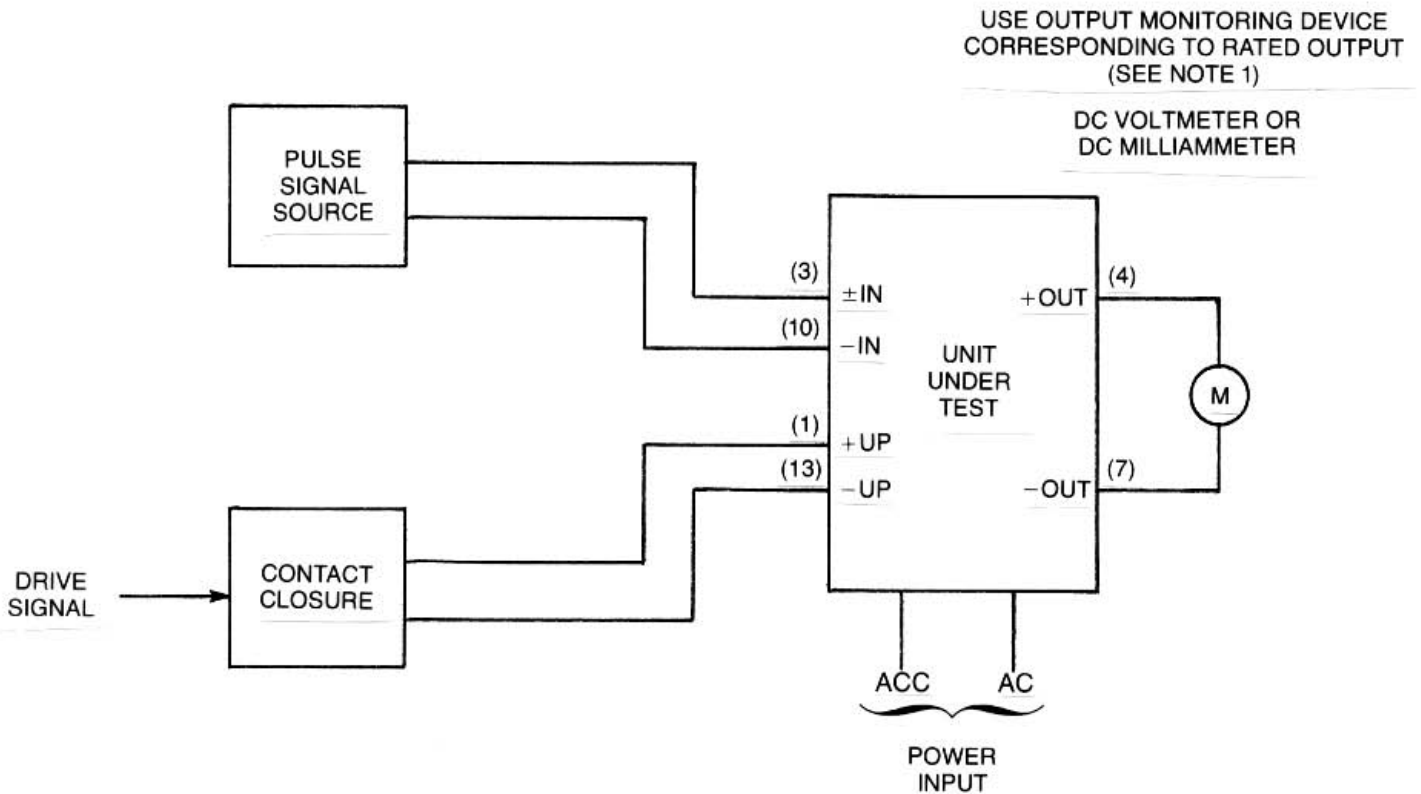

FIGURE 2-1 TEST EQUIPMENT SETUP
The test equipment setup required for calibration of all units is identical except for connection identification. Figure 2-1 shows the general test setup configuration.
Plug-in unit equipment test setup is the same as the one shown in Figure 2-1, except that printed circuit board connections are identified in that figure by numbers in parentheses. Connection identification numbers are etched in the component side of the PC board. Plug-in units inserted in a rack also use the test setup shown in Figure 2-1 with card rack terminal connections identified by numbers in parentheses. These include either the rack mount (RMR) or the surface mounted (SMR).
- a. Connect unit and test equipment as shown in Figure 2-1.